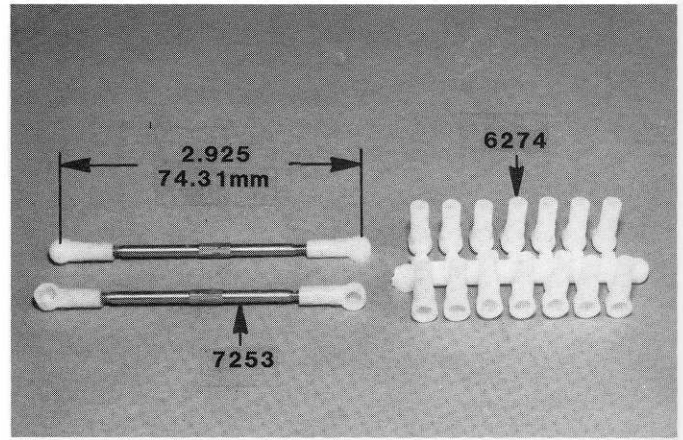

Fig. 14
□ Fig. 14 From Bag 6-14 twist and remove four of the #6274 ball ends from the tree and screw them onto two long #7253 turnbuckles. The turnbuckles have right hand threads on one end and left hand threads on the other end, so they'll screw on in different directions. This will allow us to simply turn the turnbuckles to make adjustments later.